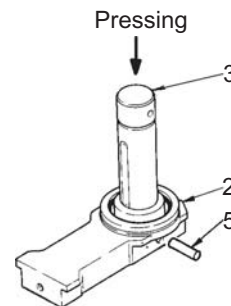

Fig. 34-48 Installing collar (2), shaft (3)
3) Installing collar (2) (See Fig. 34-48)